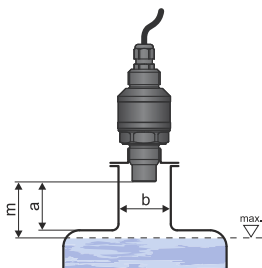

Fig. 5: Installation of the level meter in the installation neck
- Only if the maximum level in the tank gets into the dead zone, the device shall be mounted into a higher installation neck. The tank can be then filled nearly up to the maximum volume. The neck's inner level shall be even and smooth (without edges and welded joints), the inner edge should be rounded in the spot where the ultrasonic wave leaves the pipe. Choose the largest possible neck diameter, but keep the neck height as low as possible. The recommended dimensions of the inlet neck are listed in Fig. 5.